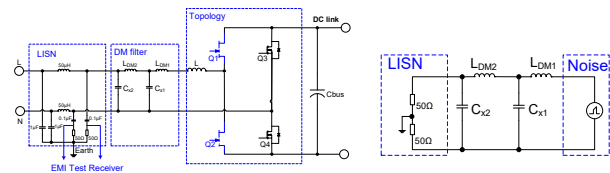

Figure 2: CCM BTP-PFC DM EMI filter equivalent circuit
As shown in Figure 2, the EMI noise is measured by a Line Impedance Stabilization Network (LISN) which is connected between the AC source and the Device Under Test (DUT). An EMI test receiver is connected to the output of the LISN in order to compare to the limits defined by the standard. This LISN actually provides a high pass filter function with the purpose of trapping the high frequency noise current into a RC ($0.1\mu F+50\Omega$) testing path. The EMI noise created by the DUT can be measured by the EMI test receiver through a 50Ω resistor. At the same time, the LISN also blocks all the noise coming from the AC source to ensure the measured noise only from the DUT. A Differential Mode (DM) EMI filter equivalent circuit of the CCM BTP-PFC is given in Figure 2 which includes two stage LC DM filters ($L_{DM1}+C_{X1}$ and $L_{DM2}+C_{X2}$).